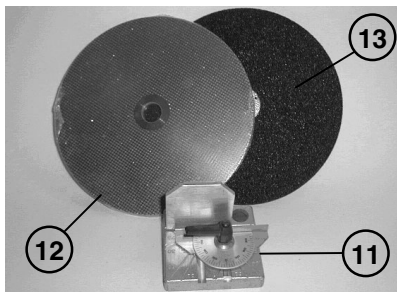

Fig. 3
The plate and relative accessories in the kit (11, Fig. 3) are designed to allow model trimming in a vertical and horizontal direction.
Fig. 3 shows a diamond disk (12) and fine disk (13)